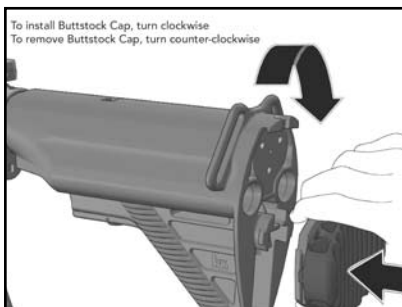

Fig. 20 – Removing the disassembly tool
- a. Rotate the recoil pad counter clockwise one quarter turn and separate the recoil pad from the buttstock. Remove the MR762A1 disassembly tool (Fig. 20, 21). This pertains to standard model MR762A1 ONLY, not the MR762A1 LRP model. LRP model normally has the disassembly tool stored in the pistol grip.